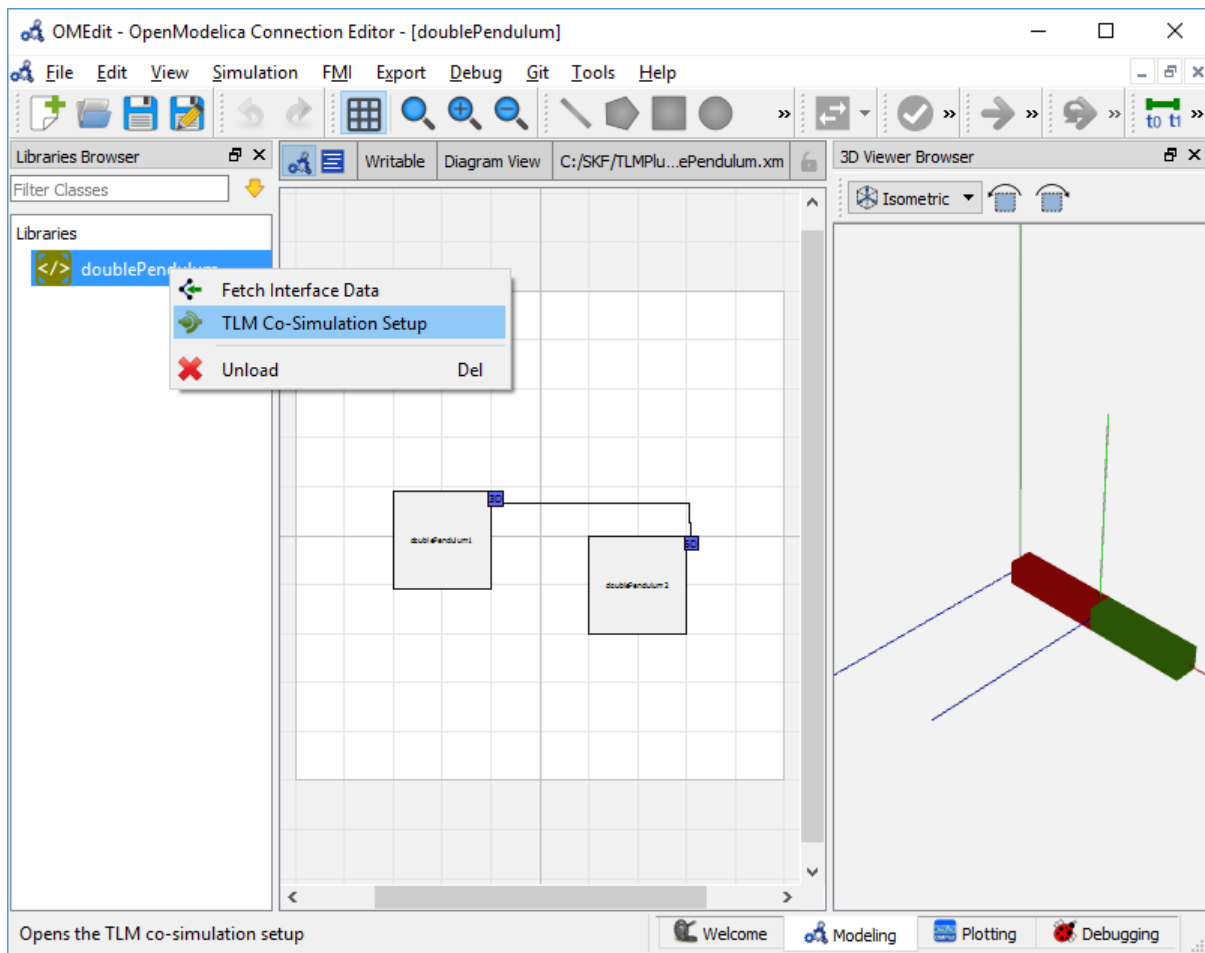

Figure 8.2: Co-simulating and Fetching Interface Data of a composite model from the Popup Menu .
- Right click the composite model in the **Libraries Browser** and choose **TLM Co-Simulation setup** from the popup menu (see Figure 8.2)
- Right click the composite model in the **Library Browser** and choose **Fetch Interface Data** from the popup menu (see Figure 8.2).